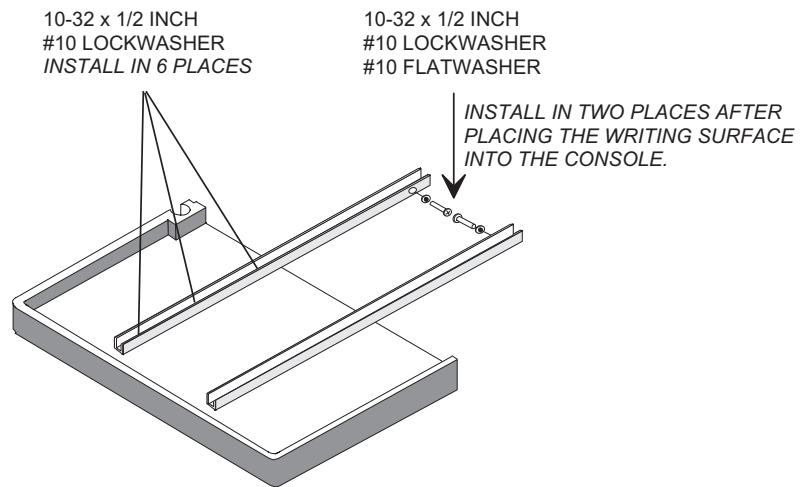

Figure 13-1. Console Table
- Step 4.** Attach the mounting rails to the table as shown in Figure 13-1.